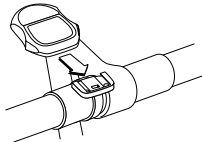

FIGURE 3: MOUNTING BRACKET
sizing straps provided to fit different diameter bars. (See figure 3) Slide the computer forward onto the mounting until it 'snaps' into place with an audible click. To remove the computer, push it backward until it releases from the mount. To test for proper installation of the magnet, sensor and computer, activate the computer by picking up the front of the bicycle and spinning the wheel. The "wheel" (1) indicator will flash. If it does not flash check the sensor and magnet alignment. Realign as necessary until the "wheel" indicator flashes while spinning the wheel.